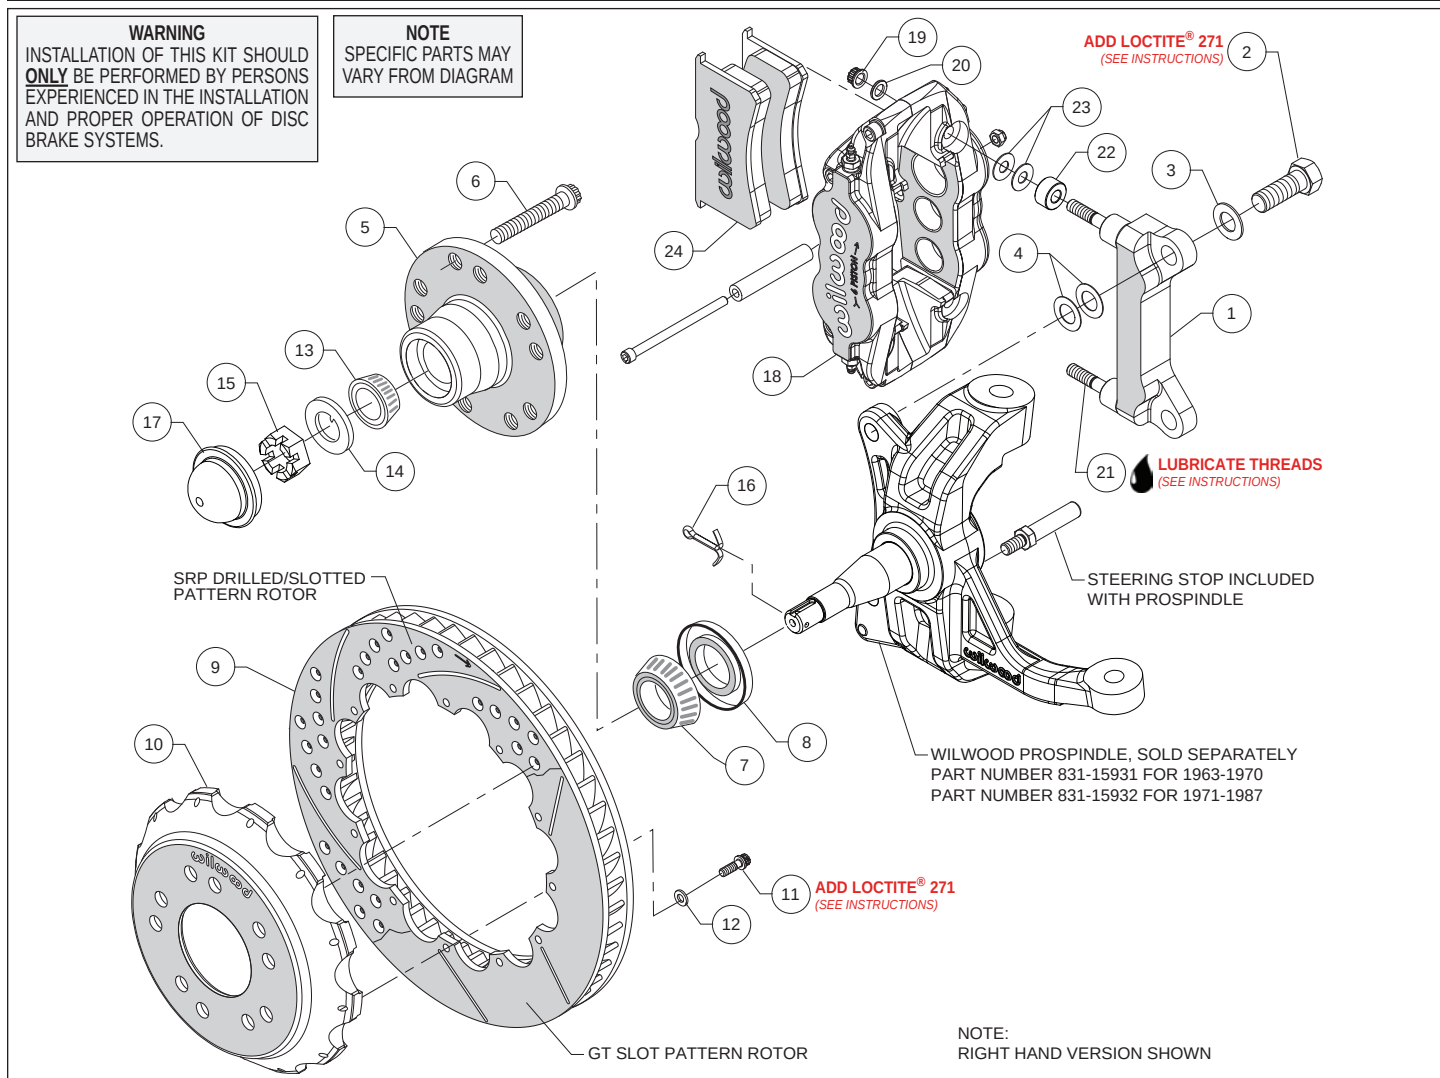
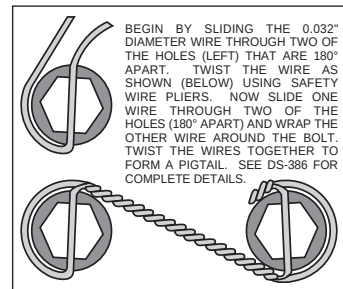

Figure 1. Typical Installation Configuration
Figure 3. Safety Wire Diagram
Assembly Instructions (numbers in parenthesis refer to the parts list and Figure 1 on the preceding pages):
- Install the steering stop bolt (included with the ProSpindle) into the spindle as shown in Figure 1 and Photo 1. Torque to 25 ft-lbs.
- The caliper mount bracket (1) should initially be installed with clean, dry threads on the mounting bolts. Orient the bracket, as shown in Figure 1 and Photo 2, and install using bolts (2) and washers (3). Initially place two .024" thick shim (4) on each bolt between the bracket and spindle, Figure 1. Temporarily tighten the mounting bolts. **NOTE:** The bracket must fit squarely against the mount bosses on the spindle. Inspect for interference from casting irregularities, machining ridges, burrs, etc. Later, after the caliper alignment has been checked, the mount bolts will be secured using red *Loctite*® 271.
- Press the dust cap (17) into the hub (5). **NOTE:** Do not hammer center of cap. Install using outer flange only.
- Orient the rotor (9) and the hat (10) as shown in Figure 1 and Photo 7. Attach rotor to hat using bolts (11) and washers (12). Using an alternating sequence, apply red *Loctite*® 271 to the threads, and torque to 155 in-lbs. For an added measure of security, the bolts may be safety wired using standard 0.032 inch diameter stainless steel safety wire as shown in Figure 3. Refer to Wilwood's data sheet DS-386 (available at www.wilwood.com/Pdf/DataSheets/ds386.pdf) for complete safety wire installation instructions.
each stud between the caliper and the bracket, as shown in Figure 1 and Photo 9. Mount the caliper (18) onto the bracket (1) using lock nuts (19) and washers (20), Figure 1. Temporarily tighten the lock nuts. Ensure that the caliper is mounted so that the largest pistons are at the rotor exit end of the caliper, in relation to the direction of rotor rotation. View the rotor through the top opening of the caliper. The rotor should be centered in the caliper, Photo 10. If not, adjust by adding or subtracting shims (4) between the bracket and the spindle. Always use the same amount of shims on each of the two mounting bolts. Once the caliper alignment is correct, remove the bracket mounting bolts one at a time, apply red *Loctite*® 271 to the threads, and torque to 140 ft-lb.